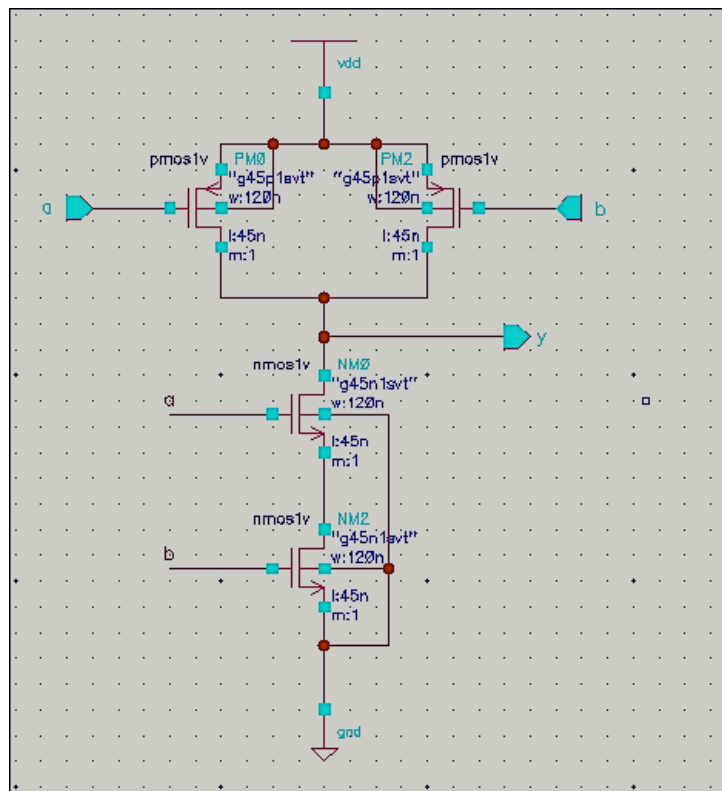

Figure 1.12: 2 input NAND gate Schematic
3. Now follow the same procedure that was followed for building the inverter to build the Nor gate. When finished, your schematic should resemble Fig.1.12.